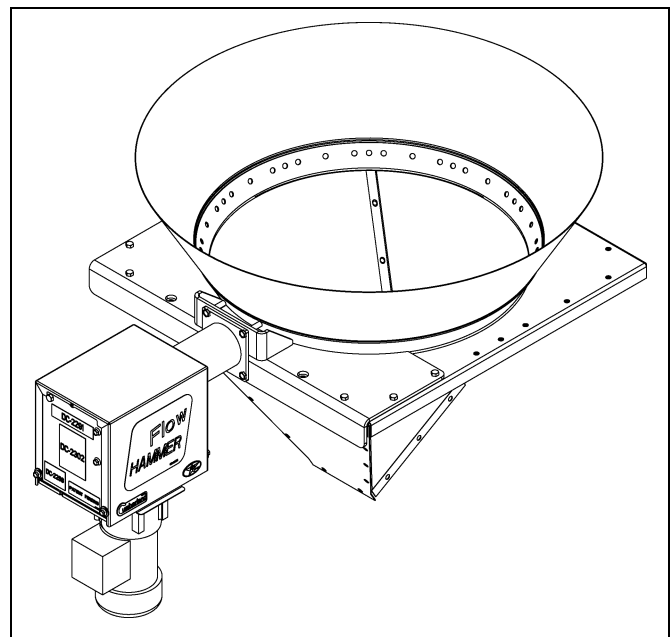

Figure 3E Assembled View
2. Slide mounting bracket (FLX-5199-RD) (A) into position over the edge of the square collar as shown in Figure 3E.